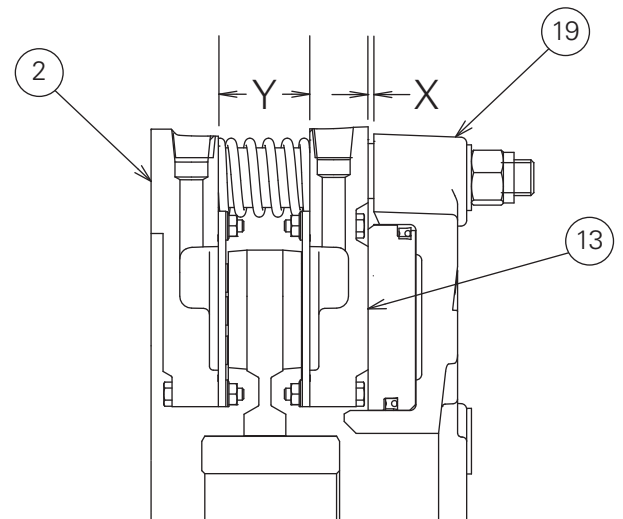

Figure 7
Apply approximately 25 psig (1.7 bar) air pressure to the cylinder to engage the WCB2 tensioner/brake assembly. Measure the "X" gap between the cylinder (19) and the pressure plate (13) or the gap "Y" between the pressure plate (13) and the mounting flange (2) as shown in Figure 7. If either gap exceeds the limits shown in Table 10, the friction discs and/or wear plates must be inspected to ensure that the wear limits listed in Table 13 have not been exceeded.